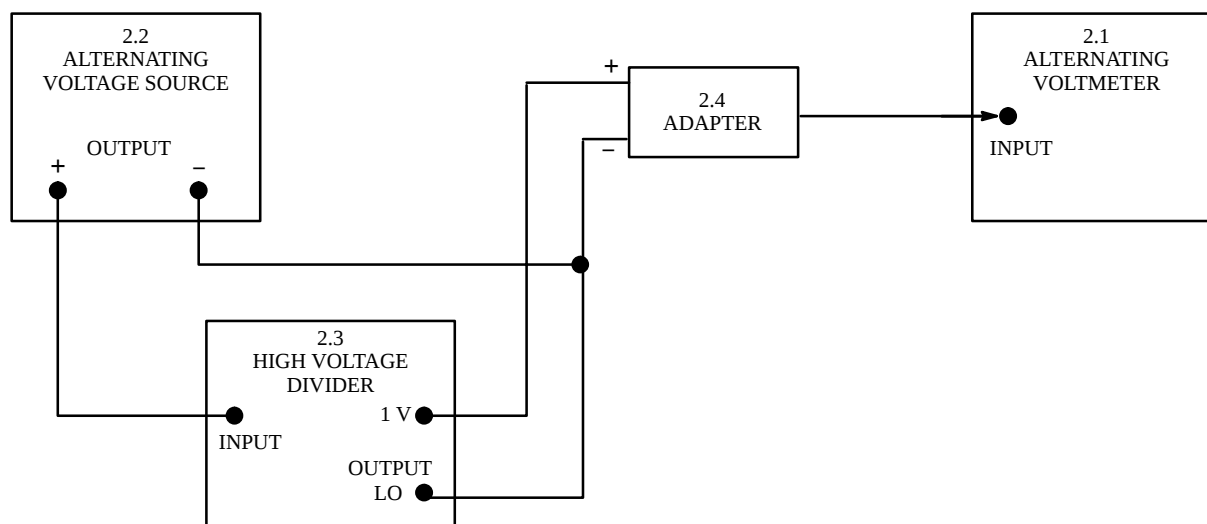

Figure 1. High Voltage Divider Calibration Test Configuration
4.1.1.1 Connect the equipment as shown in Figure 1.